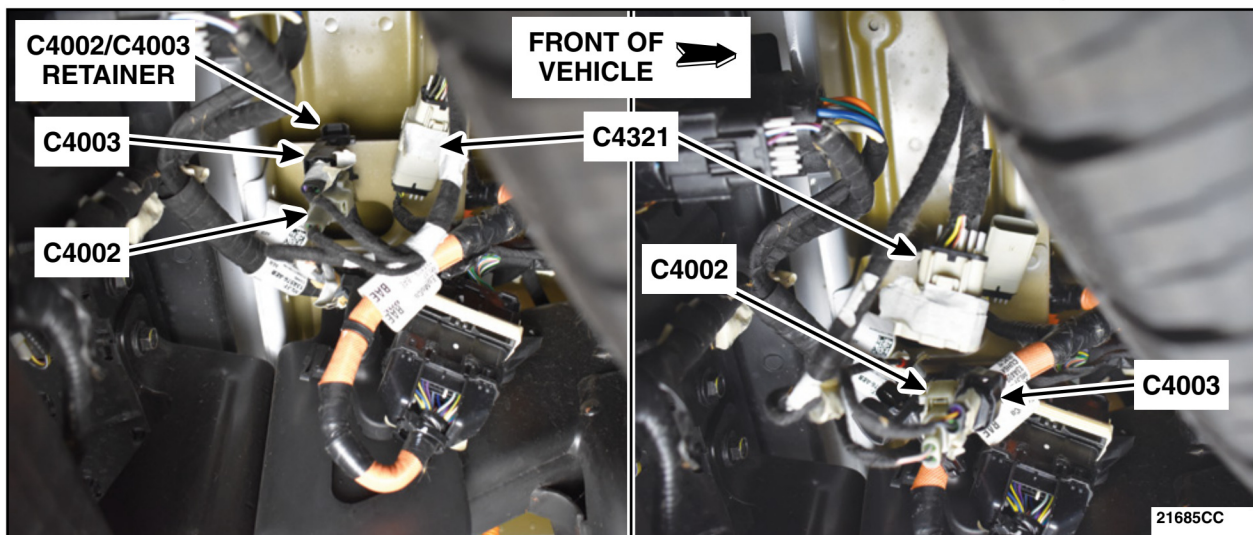

FIGURE 30
35. Release the C4002/C4003 retainer and disconnect C4002, C4003 and C4321. See Figure 30.